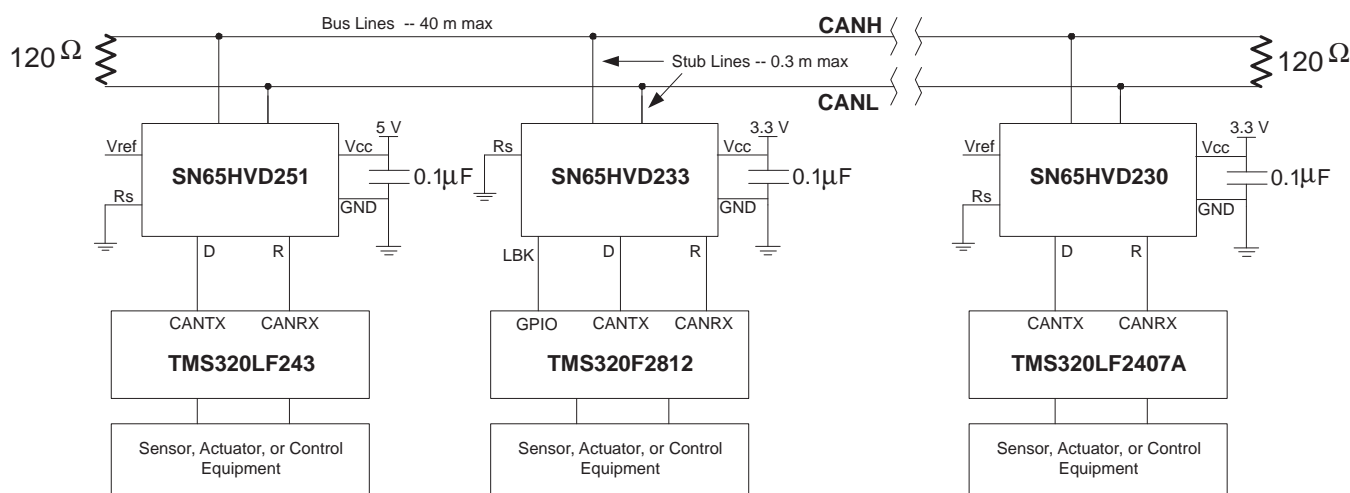

Figure 34. Typical SN65HVD233 Application
The loopback (LBK) function of the SN65HVD233 is enabled with a high-level input to pin 5. This forces the driver into a recessive state and redirects the data (D) input at pin 1 to the received-data (R) output at pin 4. This allows the host controller to input and read back a bit sequence to perform diagnostic routines without disturbing the CAN bus. A typical CAN bus application is displayed in Figure 34.
The High-Speed ISO 11898 Standard specifications are given for a maximum signaling rate of 1 Mbps with a bus length of 40 m and a maximum of 30 nodes. It also recommends a maximum un-terminated stub length of 0.3 m. The cable is specified to be a shielded or unshielded twisted-pair with a 120-Ω characteristic impedance (Z₀). The Standard defines a single line of twisted-pair cable with the network topology as shown in Figure 34. It is terminated at both ends with 120-Ω resistors, which match the characteristic impedance of the line to prevent signal reflections. According to ISO 11898, placing RL on a node should be avoided because the bus lines lose termination if the node is disconnected from the bus.